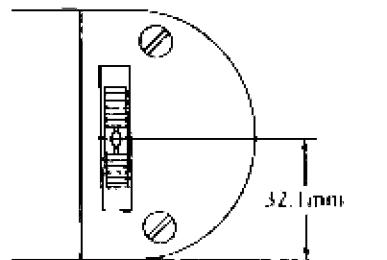

Fig.13
(Fig.13)
- 4) Adjust to be 32.1 mm from the edge of the needle plate to the center of the needle hole on the feed dog; (Fig.13)